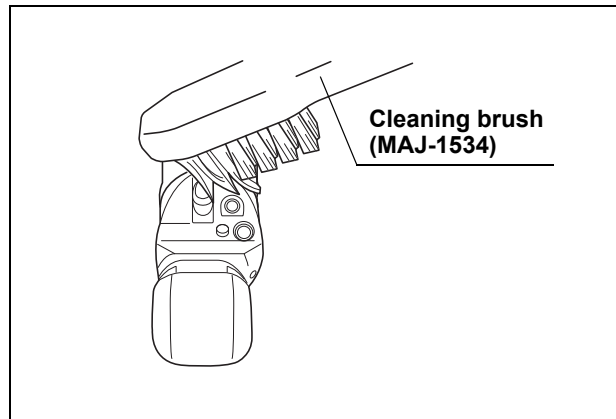

Figure 7.29
4. Look at the right side of the instrument channel opening from the distal end, brush the interior of this part with the cleaning brush (MAJ-1534) until all debris is removed (see Figure 7.29).